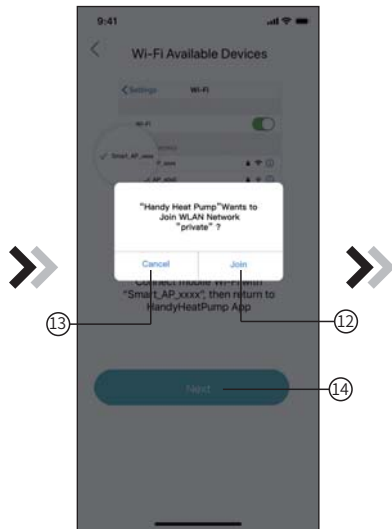
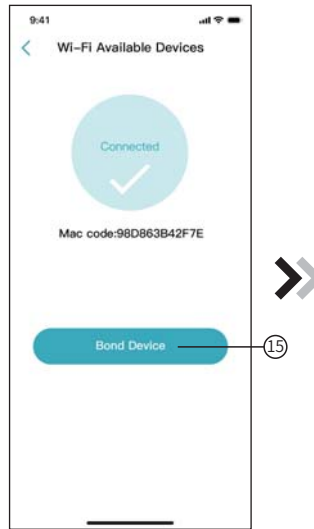

Fig.13 Configure Network interface
Fig.14 Bond Device interface
4. Slide the page back to configure network interface (Fig. 12), click ⑬ to cancel, Click ⑫ to popup window (Fig. 10), connect to the available WIFI network, and slide back to the page to configure the network., click ⑭ to turn next page(Fig. 13); click ⑮ to bond device (Fig. 14);